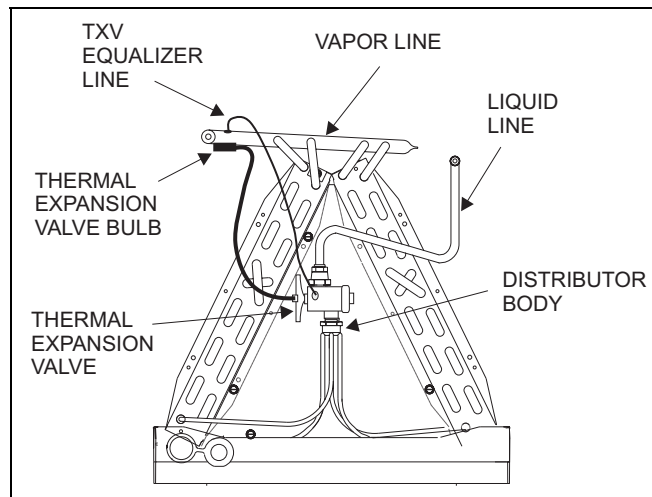

FIGURE 1: Kit Installation in System (Single Piece Air Handler Installation Shown)
4. After orifice is removed, install the thermal expansion valve to the orifice distributor assembly with supplied fittings. Orient the TXV as shown in Figure 1. Hand tighten and turn an additional 1/8 turn to seal. Do not overtighten fittings.